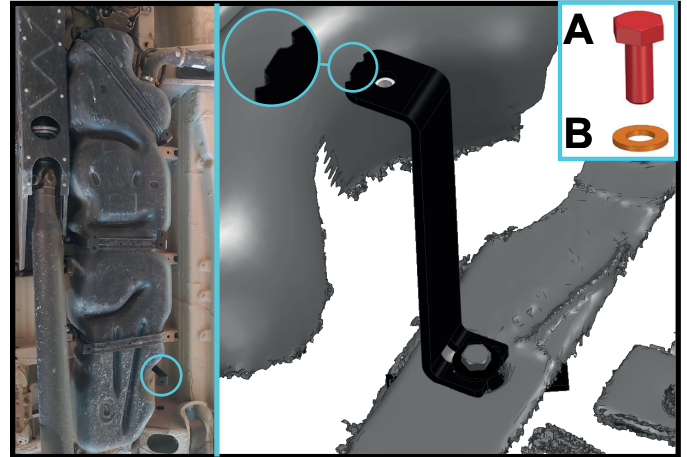

Fig. 2
2. Fix the rear left bracket (item 8) using bolt M8x25 (item A) with washer 8 (item B) as shown in fig.2.